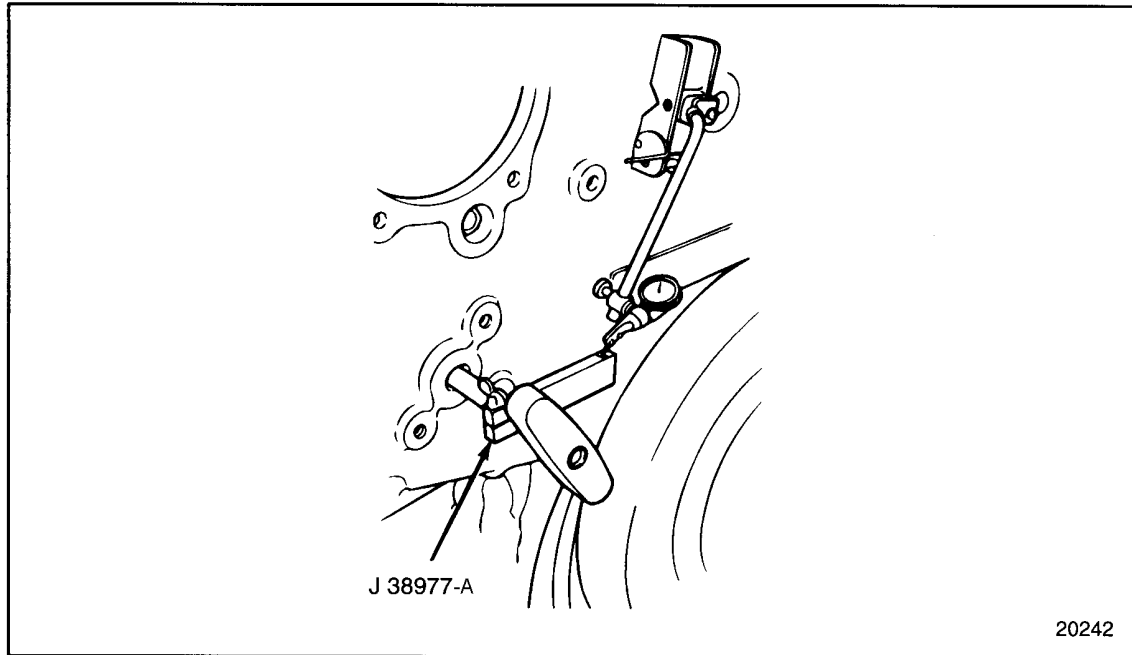

Figure 1-287 Water Pump Gear Lash Tool Method
- [b] Install the water pump gear lash tool, J 38977-A, through the hole in the gear case and thread it into the special water pump drive gear retaining bolt. See Figure 1-287.